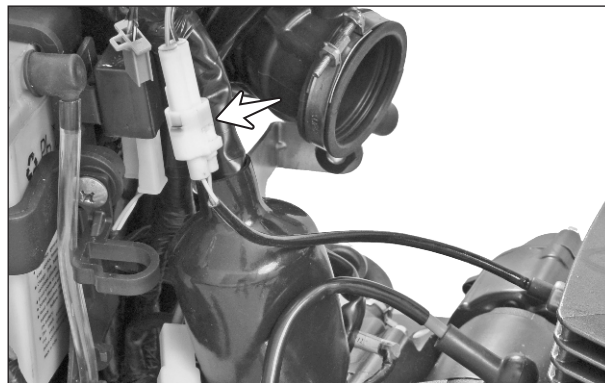

Fig. 3.77
- Disconnect the thermal sensor wiring socket from the main wiring harness. (Fig. 3.77)